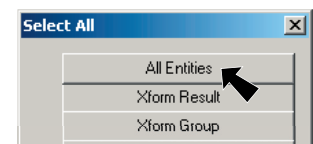

Fig. 13
Step 9. Click **All Entities** button, Fig. 13.